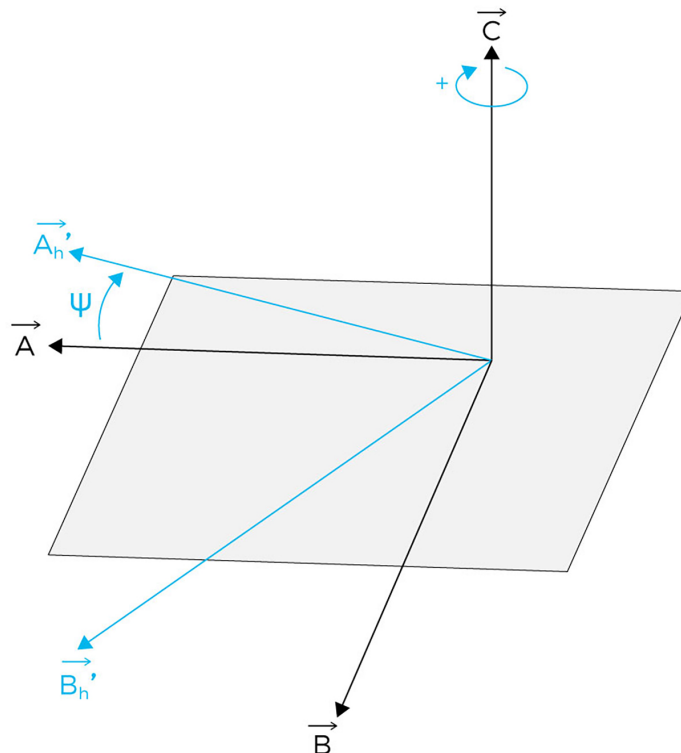

Figure 22 - Illustration of the first rotation around C
1. Rotation of (A, B, C) around the C axis, **angle  $\Psi$**  (see the Figure 22) to yield (Ah', Bh', C).